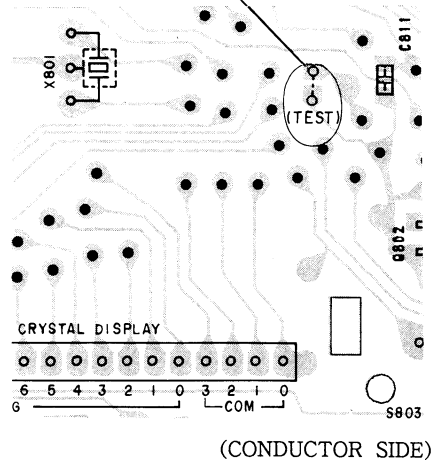

Fig.4 TEST terminal position
- (4) Confirm the clearance between the teeth of rack gear and the jig as shown in figure 4.